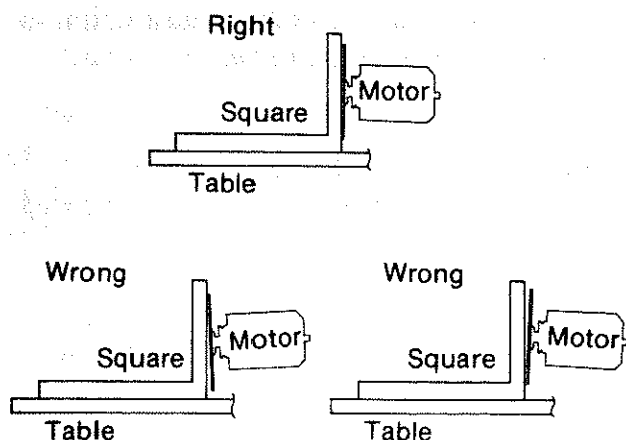

Fig. 108
7. If the square is flush with the *blade* after each rotation, no change is needed. (Figure 108) Go to the next section, or
If there is a gap between the square and the *blade* after any rotation (Figure 108), go to step 8. **Note:** Saw blades are manufactured to different specifications. Therefore a small gap is permissible on some brands.